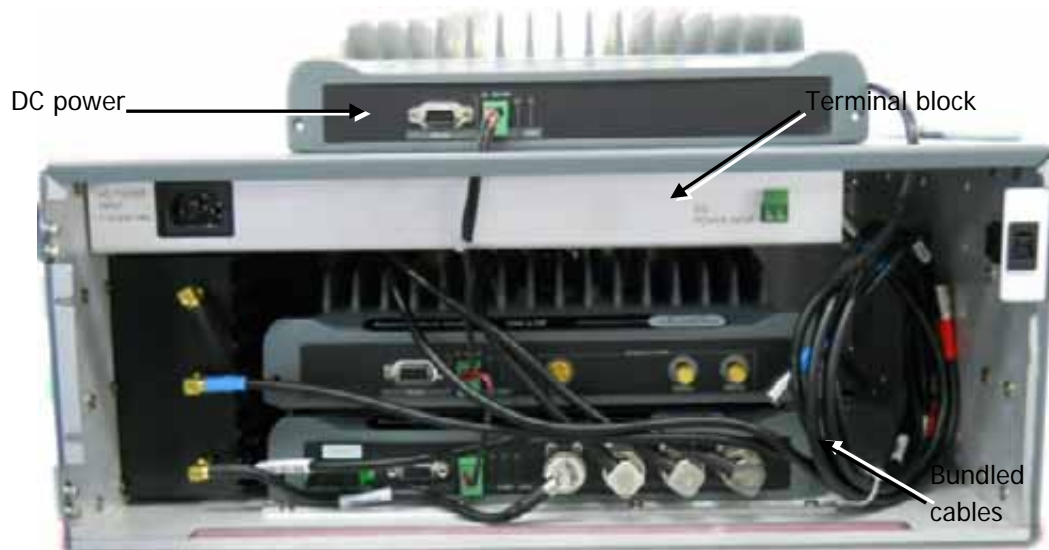

Figure 4-10. Power Connections
Refer to Figure 4-10 and perform the following connections:
1. Referring to Figure 4-10 (previous page) - using a nylon cable, bundle and tie the RHU and Add-On cables (3) leading to the SCU-4 unit and route them through the upper slot.